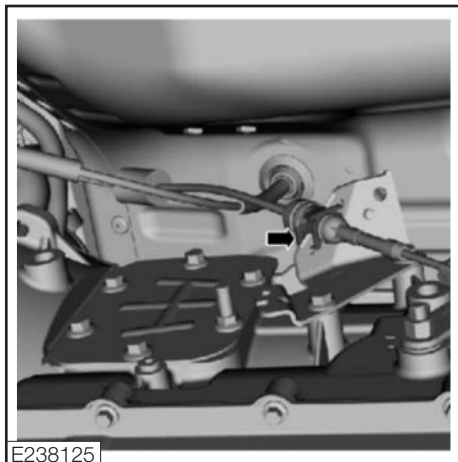

Figure 96
1. If necessary, open the adjuster lock (**Fig. 96**).